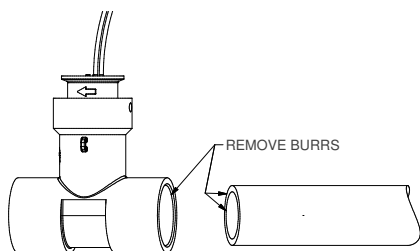

Figure 4
1. Remove all burrs from the pipe ends I.D. and O.D. edges and the Tee sockets I.D. edges (see Figure 4).